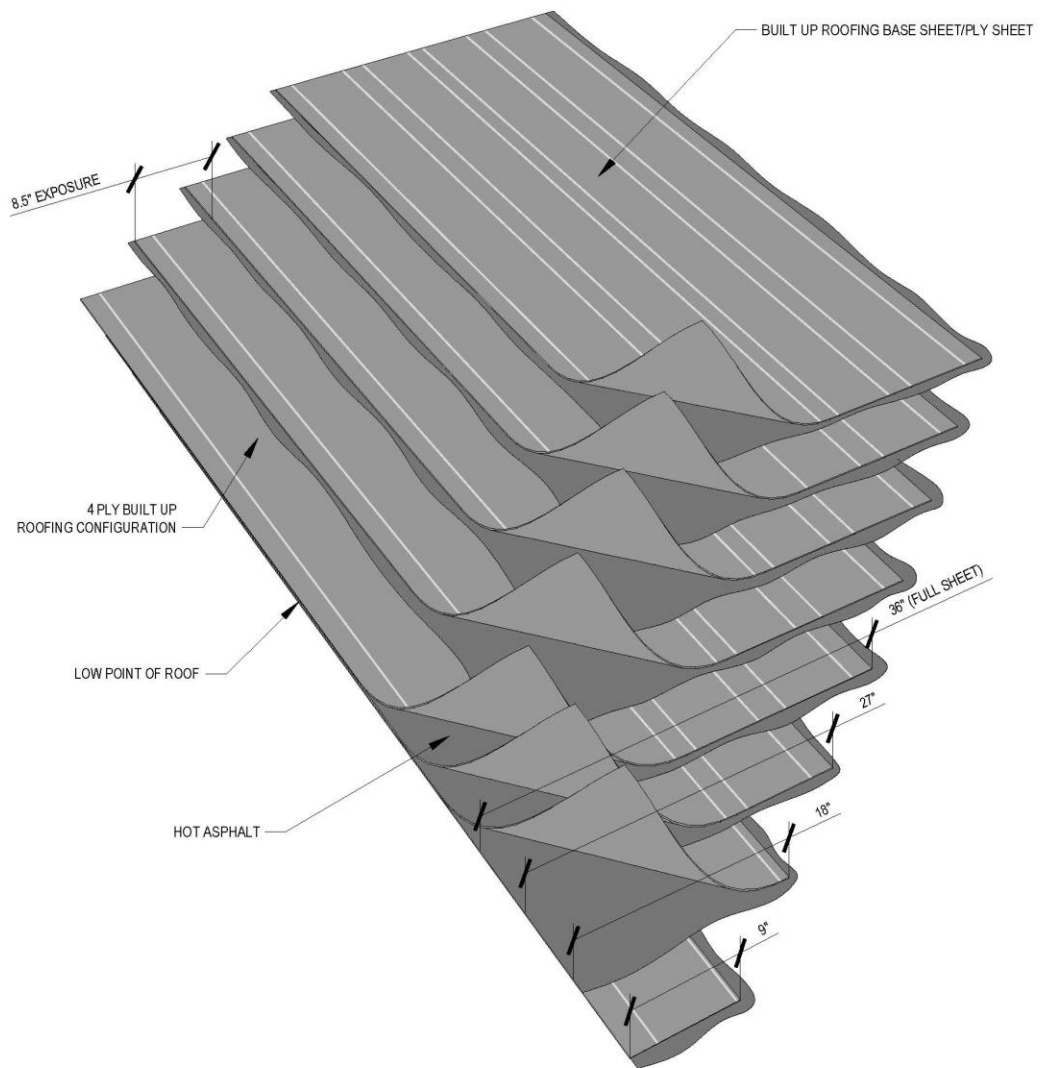

Figure 2.2c Four (4) Ply Built Up Roofing Configuration
- FOUR (4) PLY BUILT-UP ROOFING APPLICATION (Refer to Figure 2.2c):